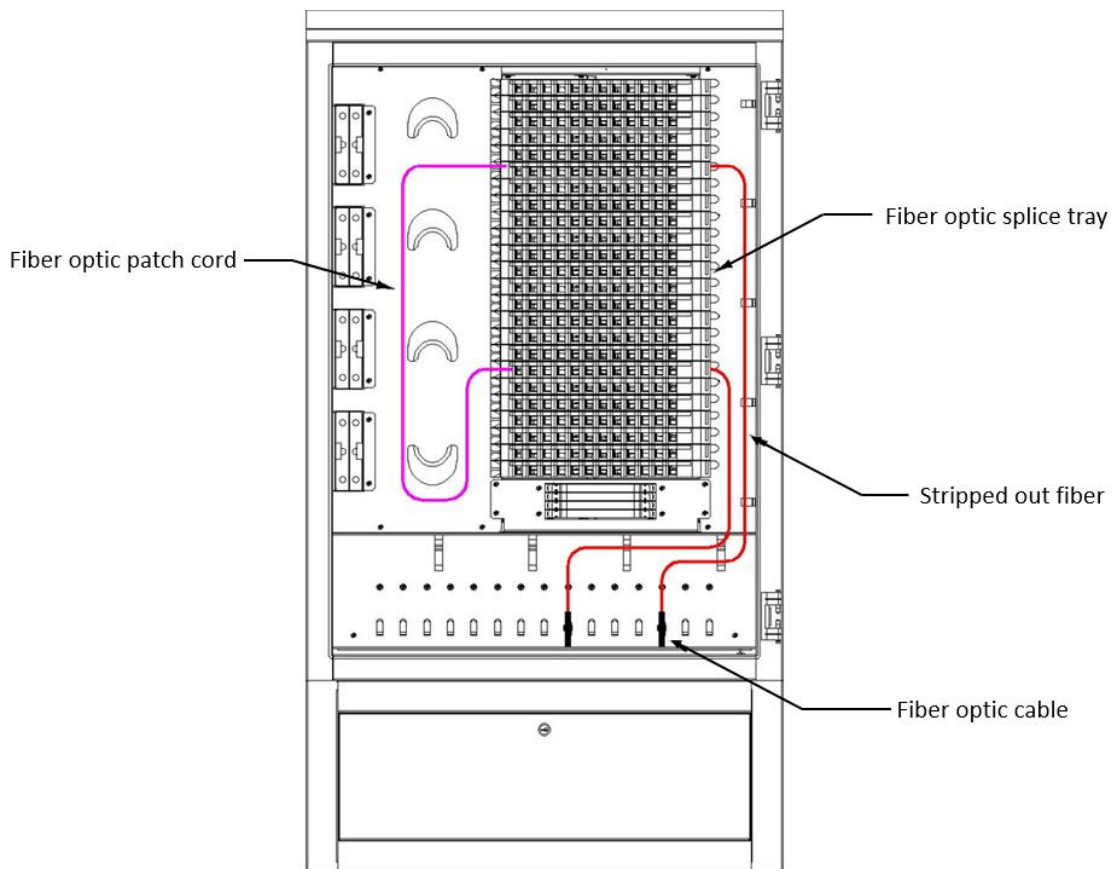

Fig 2
- Put the stripped-out fiber into transparent tube, then put them into each fiber optic splice tray units; then splice the fibers with pigtails and protect by fusion sleeves. Put fiber sleeves into fiber optic splice tray, coil the fibers. (Fig 2).